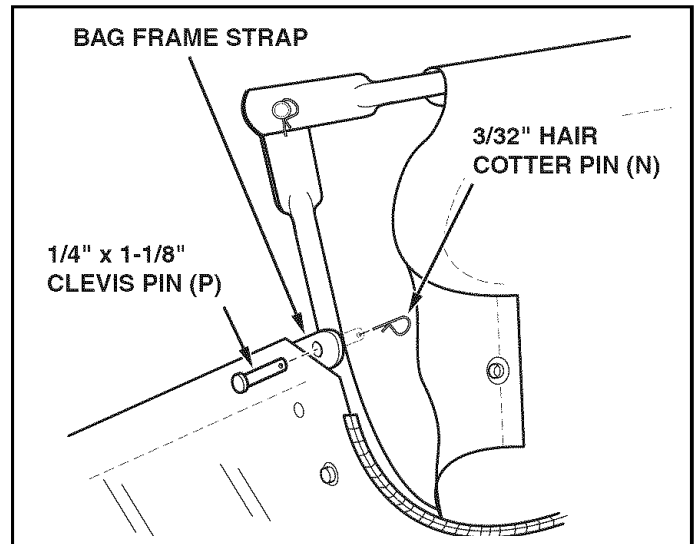

FIGURE 16
STEP 13: (SEE FIGURE 16 AND 17)
- Assemble the bag frame strap to the lower hopper side tubes using two 1/4" x 1-1/8" clevis pins (P) and 3/32" hair cotter pins (N).